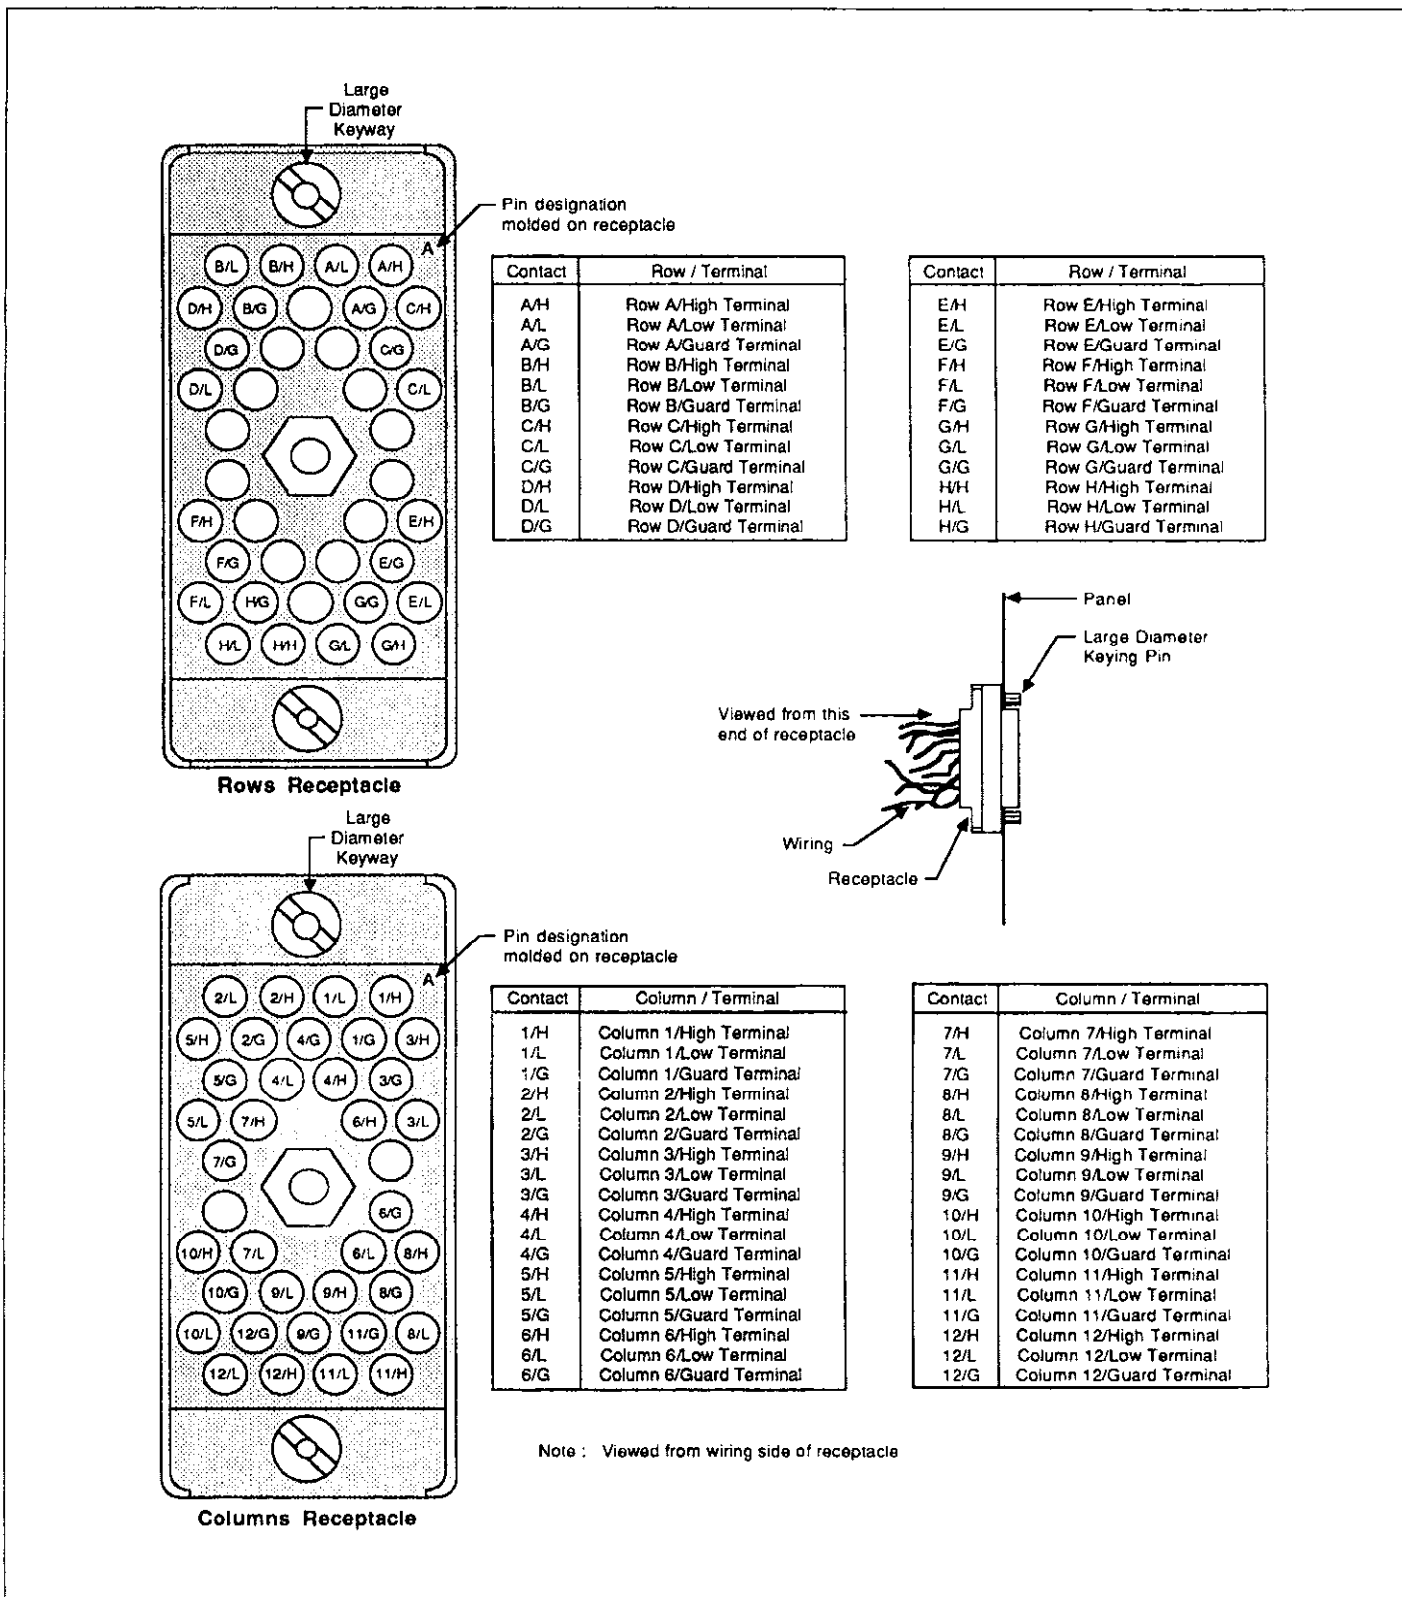

Figure 2-10. Receptacle Contact Assignments
3. Figure 2-10 provides contact identification for "ROWS" and "COLUMNS" receptacles. Using this illustration as a guide, insert the wire crimp tails into the receptacle. Use the Model 7078 CIT insertion tool to push each wire crimp tail completely into the receptacle.
Receptacle wires are tagged for identification. Red wires are HI terminals, black wires are LO, and white wires are GUARD. Contact identification at the receptacles is provided in Figure 2-10.